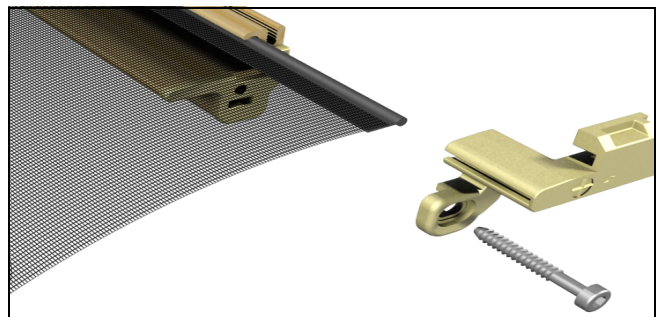

Figure 2
6. Remove the glider block from one end of the pull bar by removing screw. See figure 2.